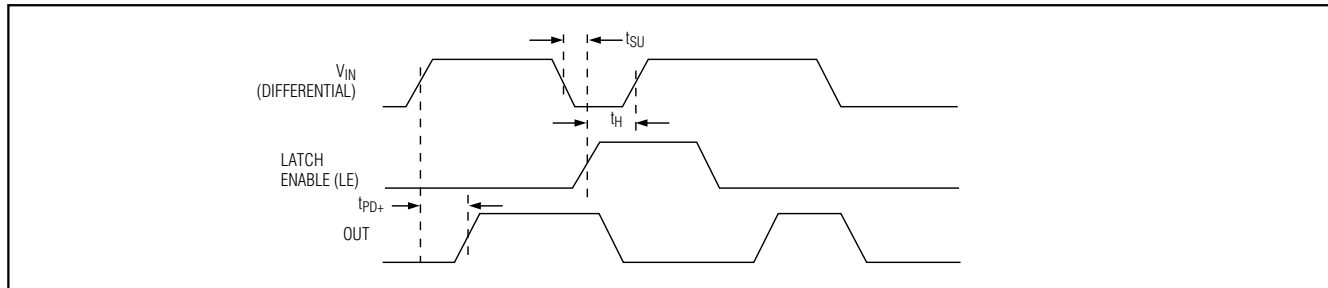

Figure 1. Timing Diagram
- Note 8:** Latch times are guaranteed by design. Latch setup time (t_{SU}) is the interval in which the input signal must be stable prior to asserting the latch signal. The hold time (t_H) is the interval after the latch is asserted in which the input signal must remain stable. Latch propagation delay (t_{LPD}) is the delay time for the output to respond when the latch enable pin is deasserted (see Figure 1).
The MAX9011/MAX9013 provide a TTL-compatible latch function that holds the comparator output state (Figure 1). With LE driven to a TTL low or grounded, the latch is transparent and the output state is determined by the input differential voltage. When LE is driven to a TTL high, the existing output state is latched, and the input differential voltage has no further effect on the output state.